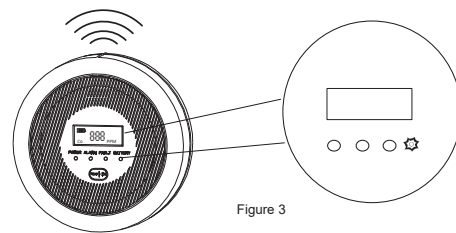

Figure 3
6) Low Voltage:Battery indicator blinks once per 60s,and buzzer sounds 'Di-' per 60s,indicating that you need to replace the batteries(refer to Figure 3).